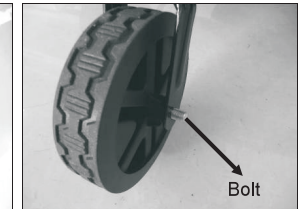
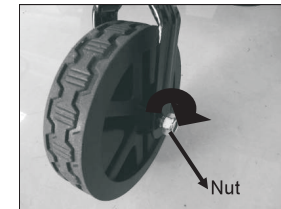

Fig. 5C
Fig. 5D
2. Fix the front wheel into place with bolt and nut. (Fig. 5C/ Fig. 5D)